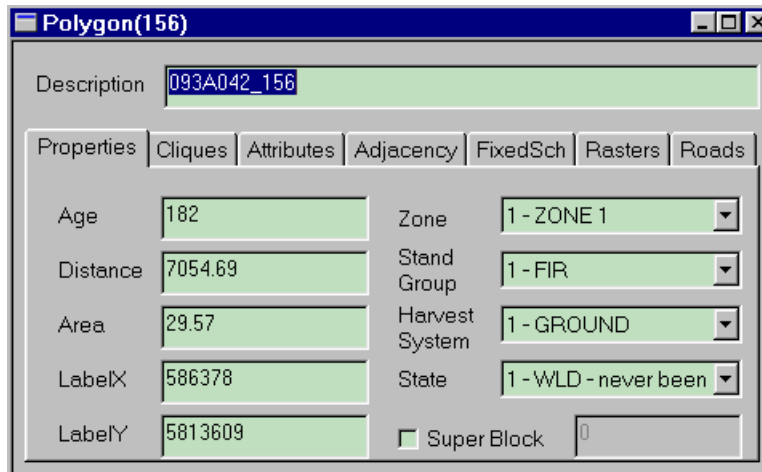

Figure 54: Information about polygon 156
- 10.2.3 Select the *Properties* tab with the left mouse button. Polygon (156) window should appear. **Note:** the *Stand Group* displayed is 1- FIR (figure 54). Explore the other tabs.